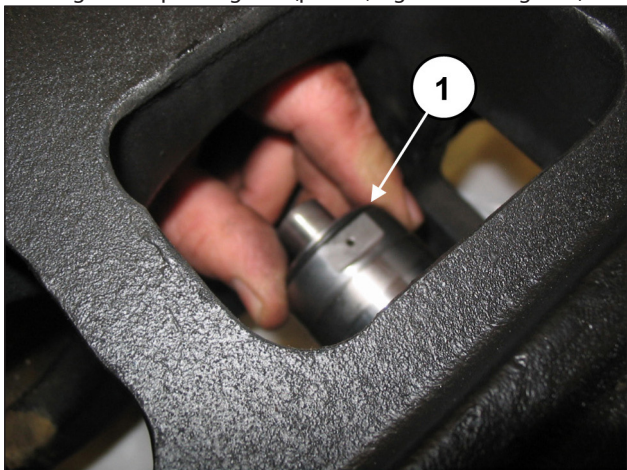
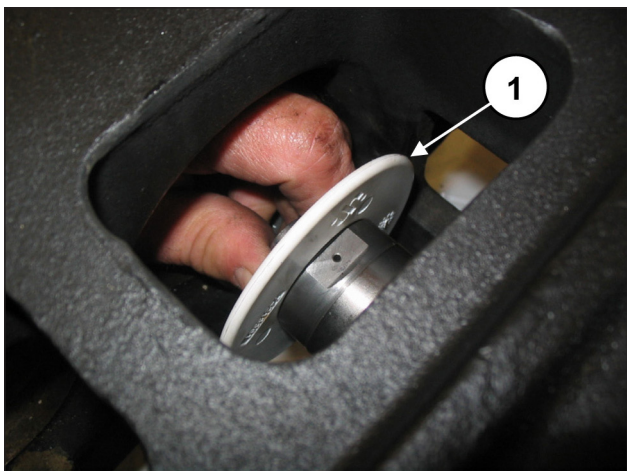

Fig. 134
Fig. 135
Position the spray-guard together with the O-ring in the housing on the piston guide (pos. ①, Fig. 134 and Fig. 135).